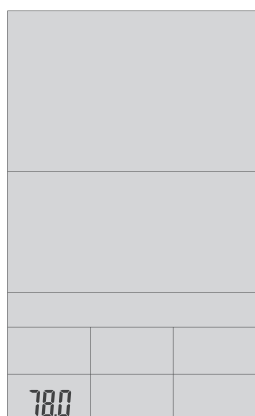

FIGURE 1
**POWERING ON:** Make sure bike is plugged in. To power on simply pedal the bike or press any button on the console. Press the RESET button for 5 seconds to return to the home screen. The LCD display will turn all console lights on and you will hear a long 2 second beep. See below (FIGURE 1 & 2).